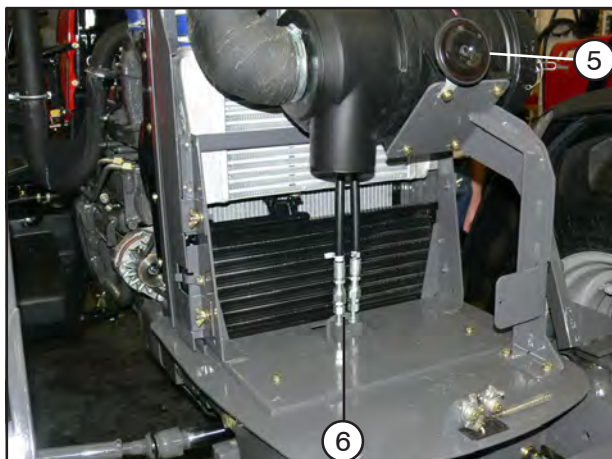

Fig. 4
- Disconnect the horn (5) Fig. 4.
- Disconnect the steering cylinder hoses (6) (2WD and 4WD) Fig. 4 and 5.